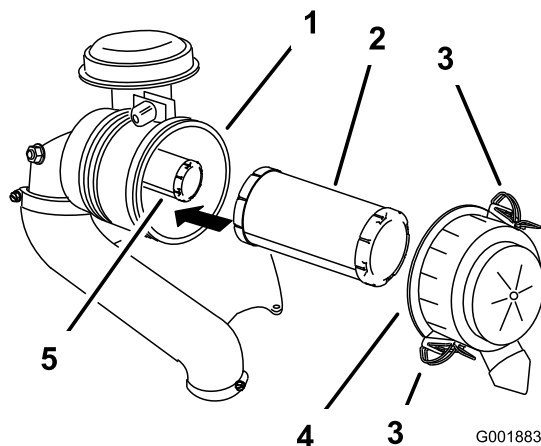

Figure 35
3. Release the latches on the air cleaner and pull the air cleaner cover off the air cleaner body (Figure 35).
5. Gently slide the primary filter out of the air cleaner body (Figure 35).
2. If the safety filter is being replaced, carefully slide it into the filter body (Figure 35).
3. Carefully slide the primary filter over the safety filter (Figure 35).
4. Install the air cleaner cover with the side indicated as up facing upward and secure the latches (Figure 35).